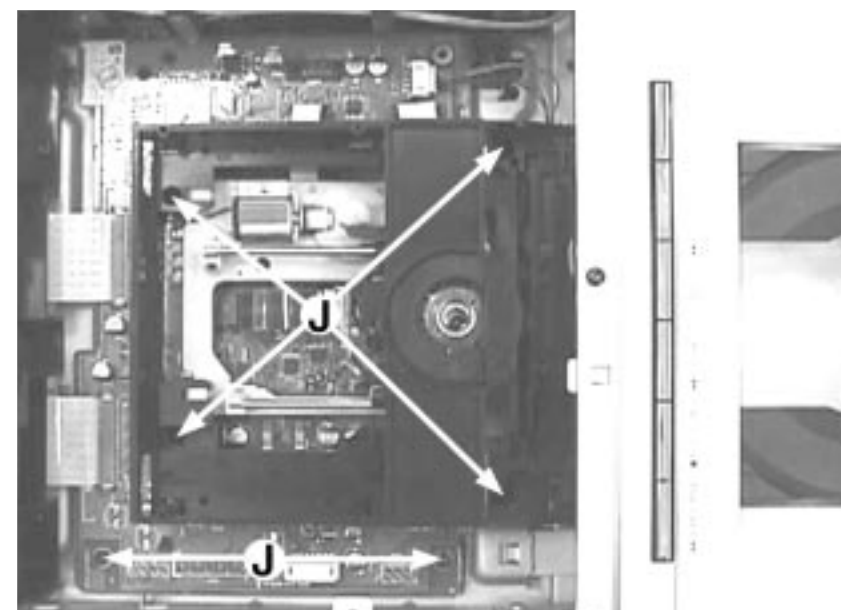

Figure 11
- 3) Slide out the DVD Tray fully and remove 6 screws J (see Figure 11) to loosen the DVD Module (pos 1109).